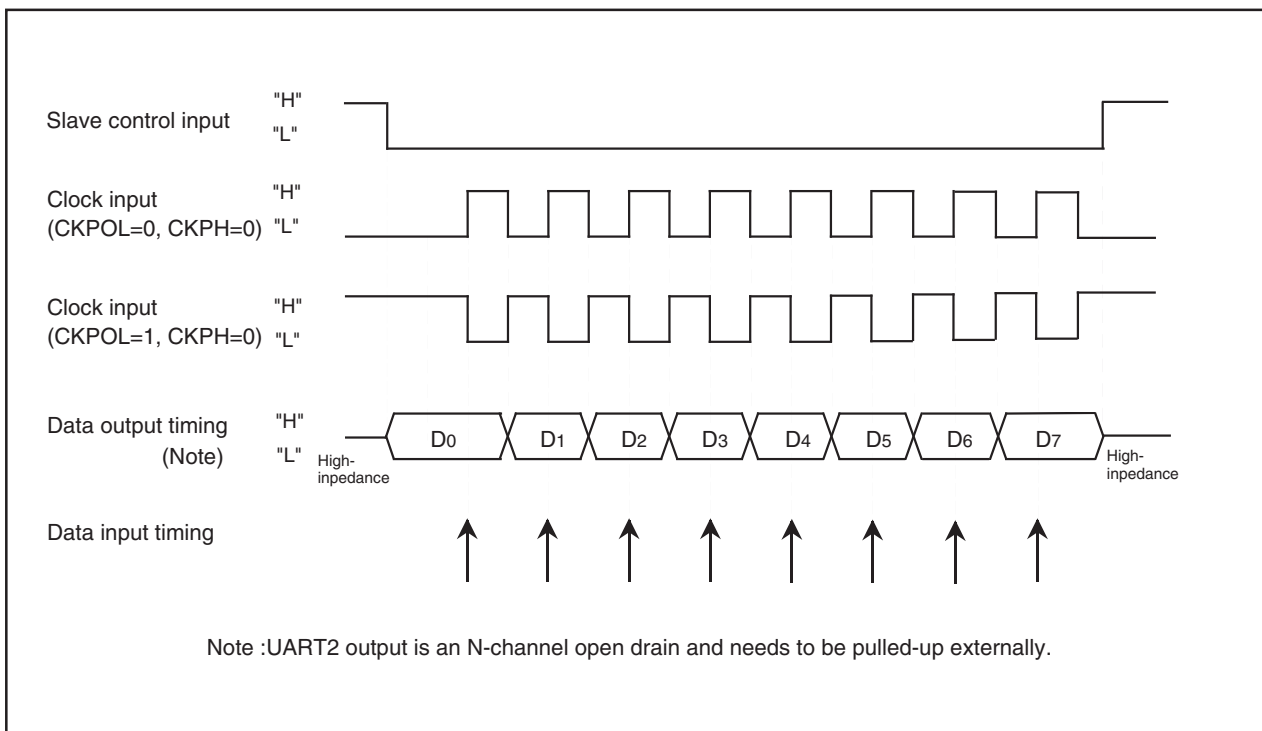

Figure 1.15.35. The transmission and reception timing (CKPH=1) in slave mode (external clock)
- Figure 1.15.35 shows the timing when bit 1 of address 037516)="1"